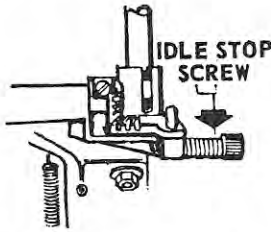

Fig. G47—Late motors have a slow speed stop screw on speed control vertical shaft gear as shown. Screw is on port side of motor.
**CARBURETOR.** Float type carburetors are used on all models. Refer to Fig. G45 or Fig. G46. On 12 and 15 horsepower models, normal initial setting for both the high speed mixture adjusting needle (26—Fig. G45) and the low speed mixture adjusting needle (15) is  $\frac{3}{4}$ -turn from closed position. On 22 and 25 horsepower motors, normal initial setting for the low speed mixture needle (44—Fig. G46) is approximately two full turns from closed position. Initial setting for high speed mixture needle (34) is  $\frac{3}{4}$ -turn. On some models, knob or bellcrank arm must be removed from needle to make the initial adjustments. On all models, final adjustment must be made when motor is in operation, by turning knobs on control panel. Clockwise rotation of both needles leans the mixture. On late models, low idle speed can be adjusted by turning the screw on speed control gear shown in Fig. G47.